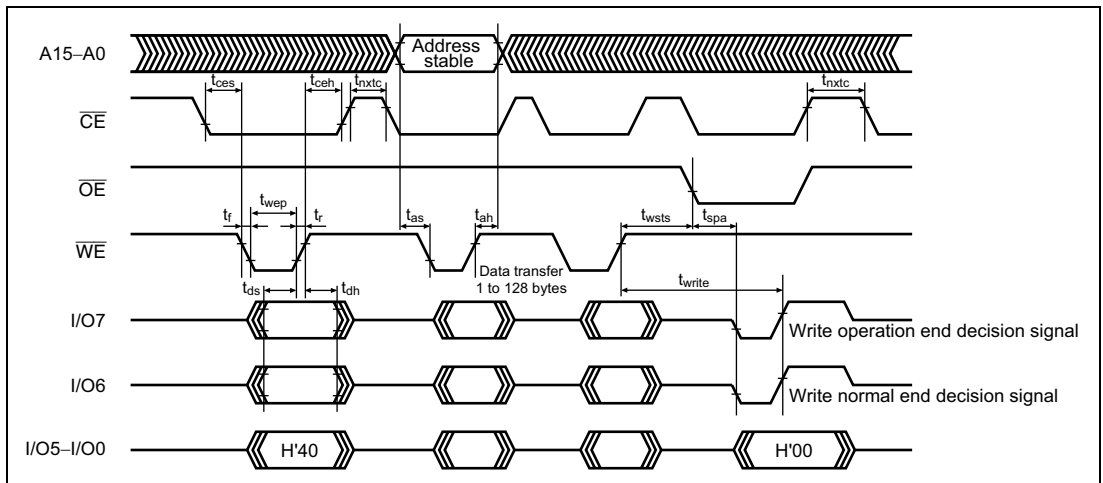

Figure 6.17 Auto-Program Mode Timing Waveforms
5. Memory address transfer is performed in the second cycle (figure 6.17). Do not perform transfer after the third cycle.